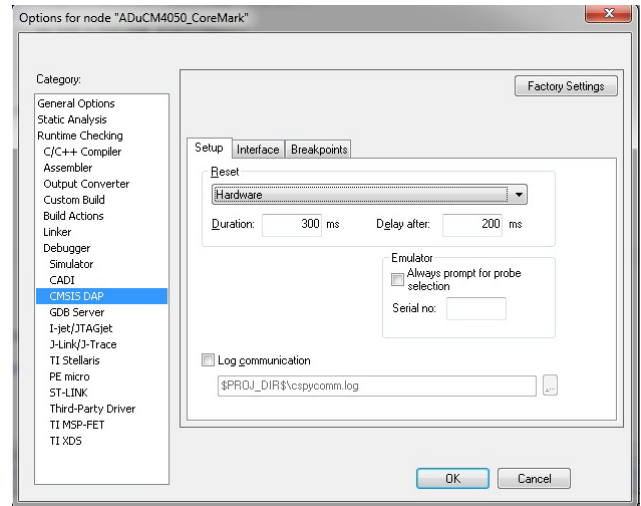
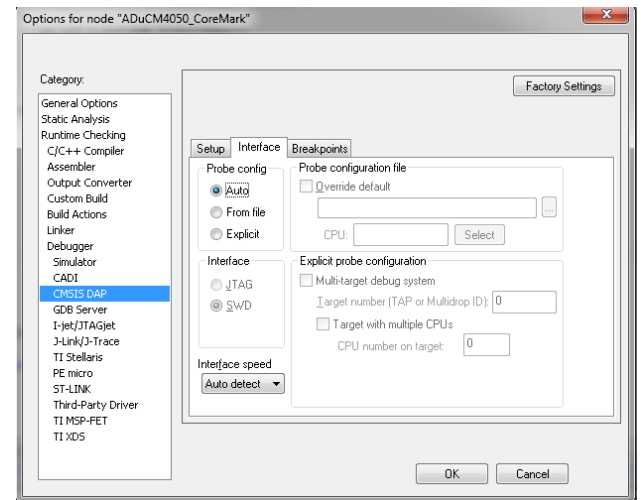

Figure 11. CMSIS DAP—Setup Configuration
Figure 12. CMSIS DAP—Connection Configuration
- Figure 11 and Figure 12 show the CMSIS DAP configuration. Use the **Hardware** target reset.